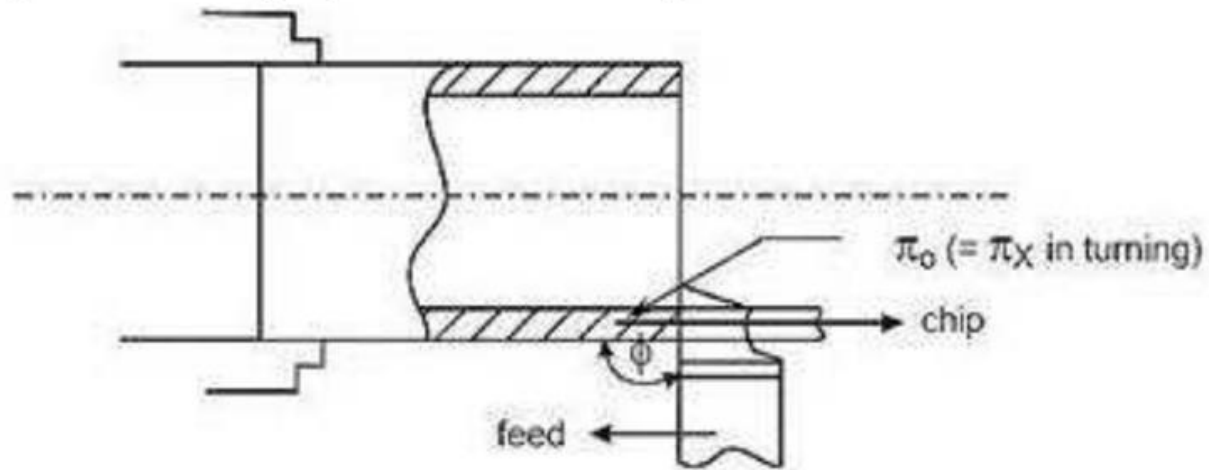

Fig. 1.9 Pure orthogonal cutting (pipe turning)
- This refers to chip flow along  $\pi_0$  and  $\phi = 90^\circ$  as typically shown in Fig. 1.9. Where a pipe like job of uniform thickness is turned (reduced in length) in a center lathe by a turning tool of geometry;  $\lambda = 0^\circ$  and  $\phi = 90^\circ$  resulting chip flow along  $\pi_0$  which is also  $\pi_x$  in this case.